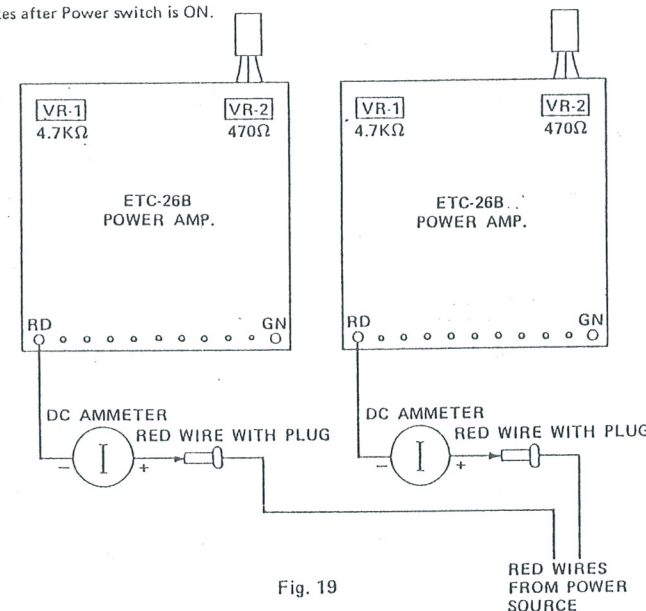

Fig. 19
B. Remove the plug (red wire) from the No. 1 terminal (+B) of the Power Amplifier Unit (ETC-26B) and connect the DC ammeter to each channel. (See Fig. 19)